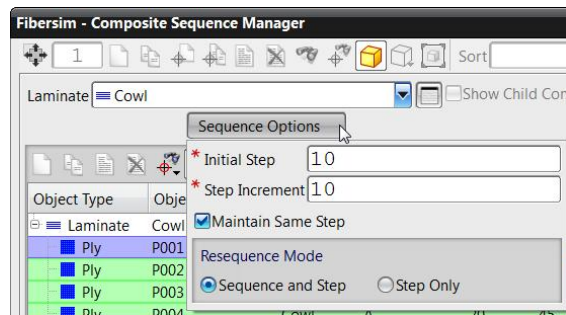

Figure 3–42
2. Click  (Sequence Options) as shown in Figure 3–42.
4. Select the **Cowl** laminate from the list and click  (Resequence). The *Step* column updates with increments of 1 as shown in Figure 3–43.